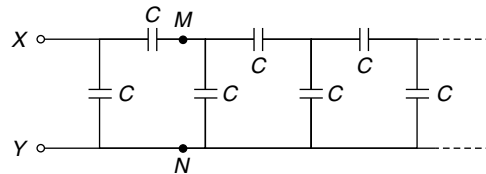

Fig. 1.44 A capacitive ladder network
1.36 Figure 1.44 represents a capacitive ladder network. Obtain equivalent capacitance across $(x - y)$.